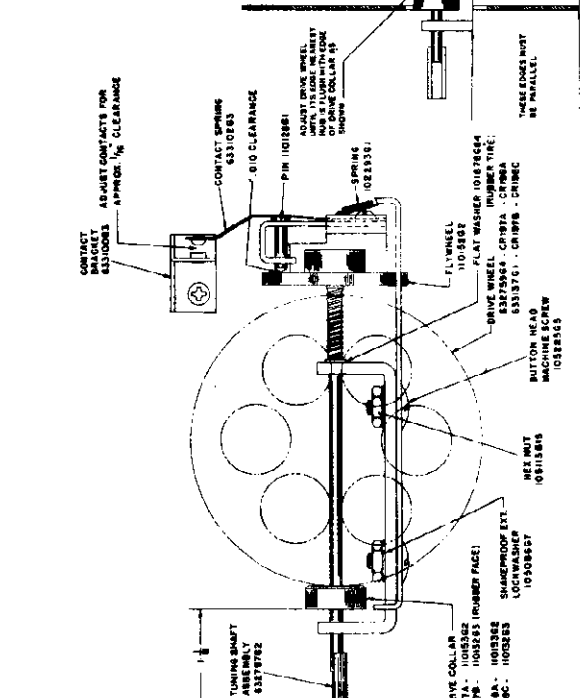
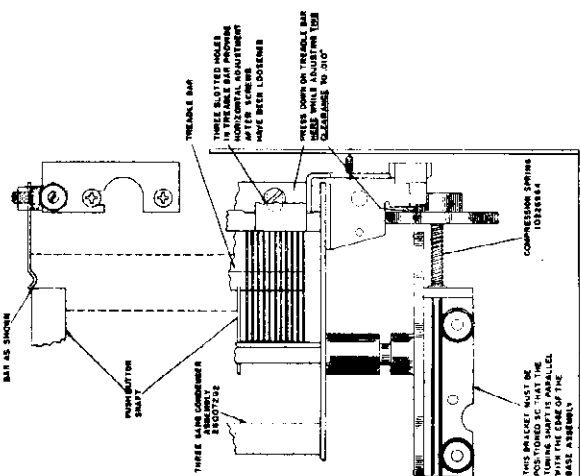

FIGURE 4
FIGURE 5
Whenever any of the mechanical parts in the condenser gang drive assembly require replacement due to rough handling or for any other reason, it is extremely important that clearances and adjustments shown on Figures 4 and 5 are correct; otherwise, the tuning mechanism will be sluggish or it may slip during operation.
1. Assemble the Tuning Shaft, Drive Collar, Compression Spring and Flywheel in the order shown on Figure 5. The distance between the front of the Drive Collar and the front of the Tuning Shaft must be 1 1/4 inches as specified on Figure 4. Install the Flywheel on the rear of the Tuning Shaft and slide it forward until it nearly touches the edge of the Drive Wheel; then tighten one of the set screws in the Flywheel hub. Insert a .010" gauge between the Flywheel and the Pin, and while holding the gauge in this position, loosen the set screw in the Flywheel hub that was previously tightened. The Compression Spring should force the Flywheel back against the gauge-when this occurs, tighten both set screws in the Flywheel hub.
loosening the two screws in the Contact Bracket and sliding the bracket in the required direction until a 1/16" clearance is obtained. If this adjustment cannot be obtained in the manner prescribed, bend the Contact Bracket until proper clearance is realized. 3. The Drive Wheel is properly located on its shaft when its edge nearest the hub is in line with the outside edge of the Drive Collar as shown on Figure 5. Two Allen set screws in the Drive Wheel hub provide a means of adjusting the position of this wheel.
5. If the push button shafts at both ends do not engage the Treadle Bar as shown on Figure 5, the three screws in the Treadle Bar must be loosened and the Treadle Bar should be moved until the required condition is obtained.